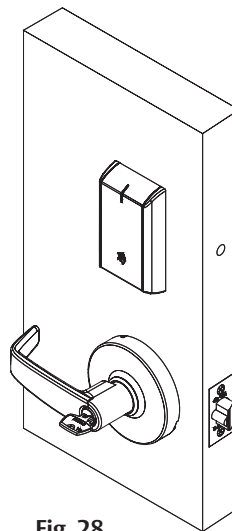

Fig. 28
- Insert key into cylinder and rotate. (Fig. 28)